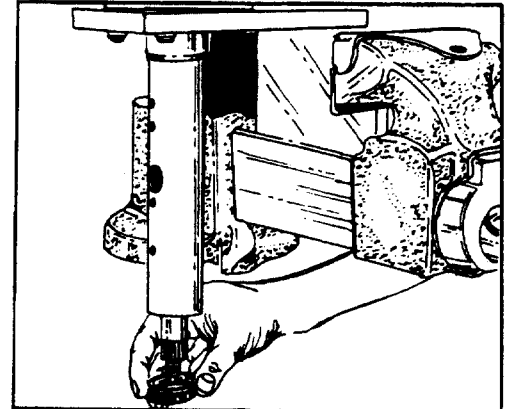

FIGURE 35.
43. Slide the seal (39) from the jacket tube. If the seal is worn or damaged, it must be replaced. See figure 35.